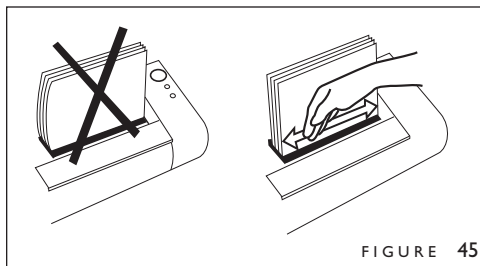

FIGURE 45
6. Tap the document on the top and the left to be sure all pages are even. Push the pages backward to ensure proper binding. Check that the document edge aligns with the edge of the strip (figure 45).